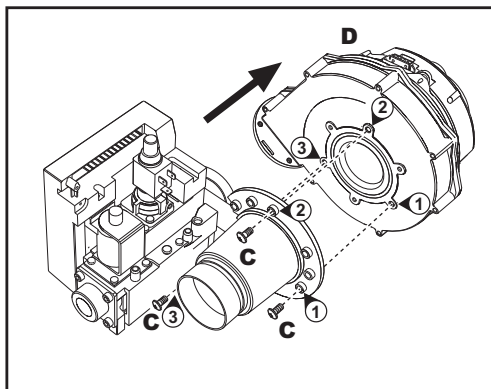

fig. 56 - model ENERGY TOP B 125 - 250
6. Undo the screws "C" and remove fan "D" (fig. 56 - only model ENERGY TOP B 125 - 250)